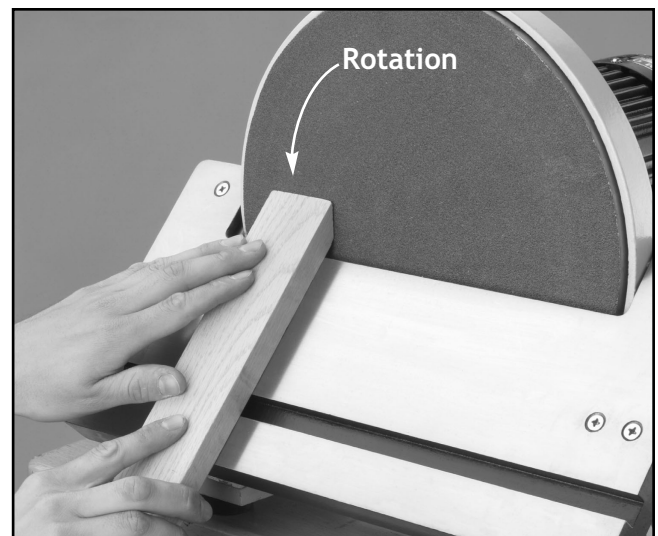

Figure 12. Mitering with table angled.
3. With light, but firm pressure, push the workpiece slowly into the downspin side of the sanding disc (**Figure 12**).